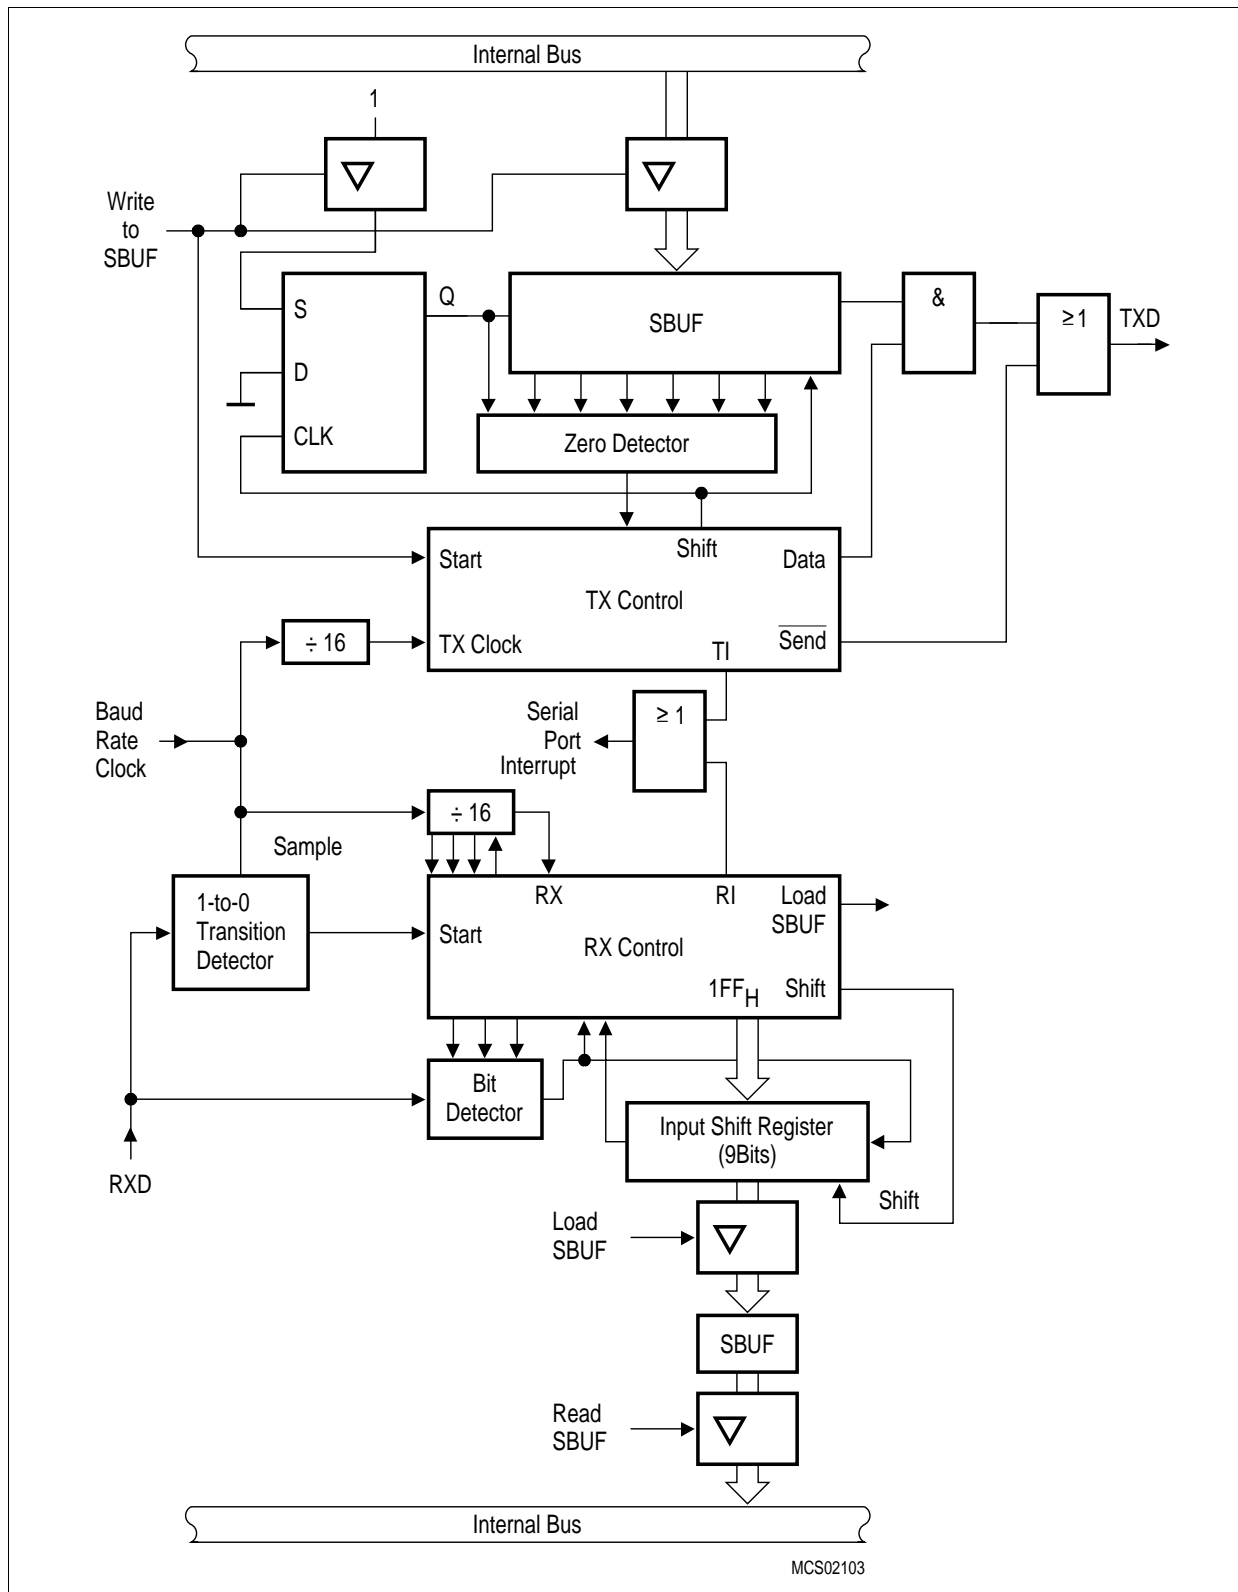
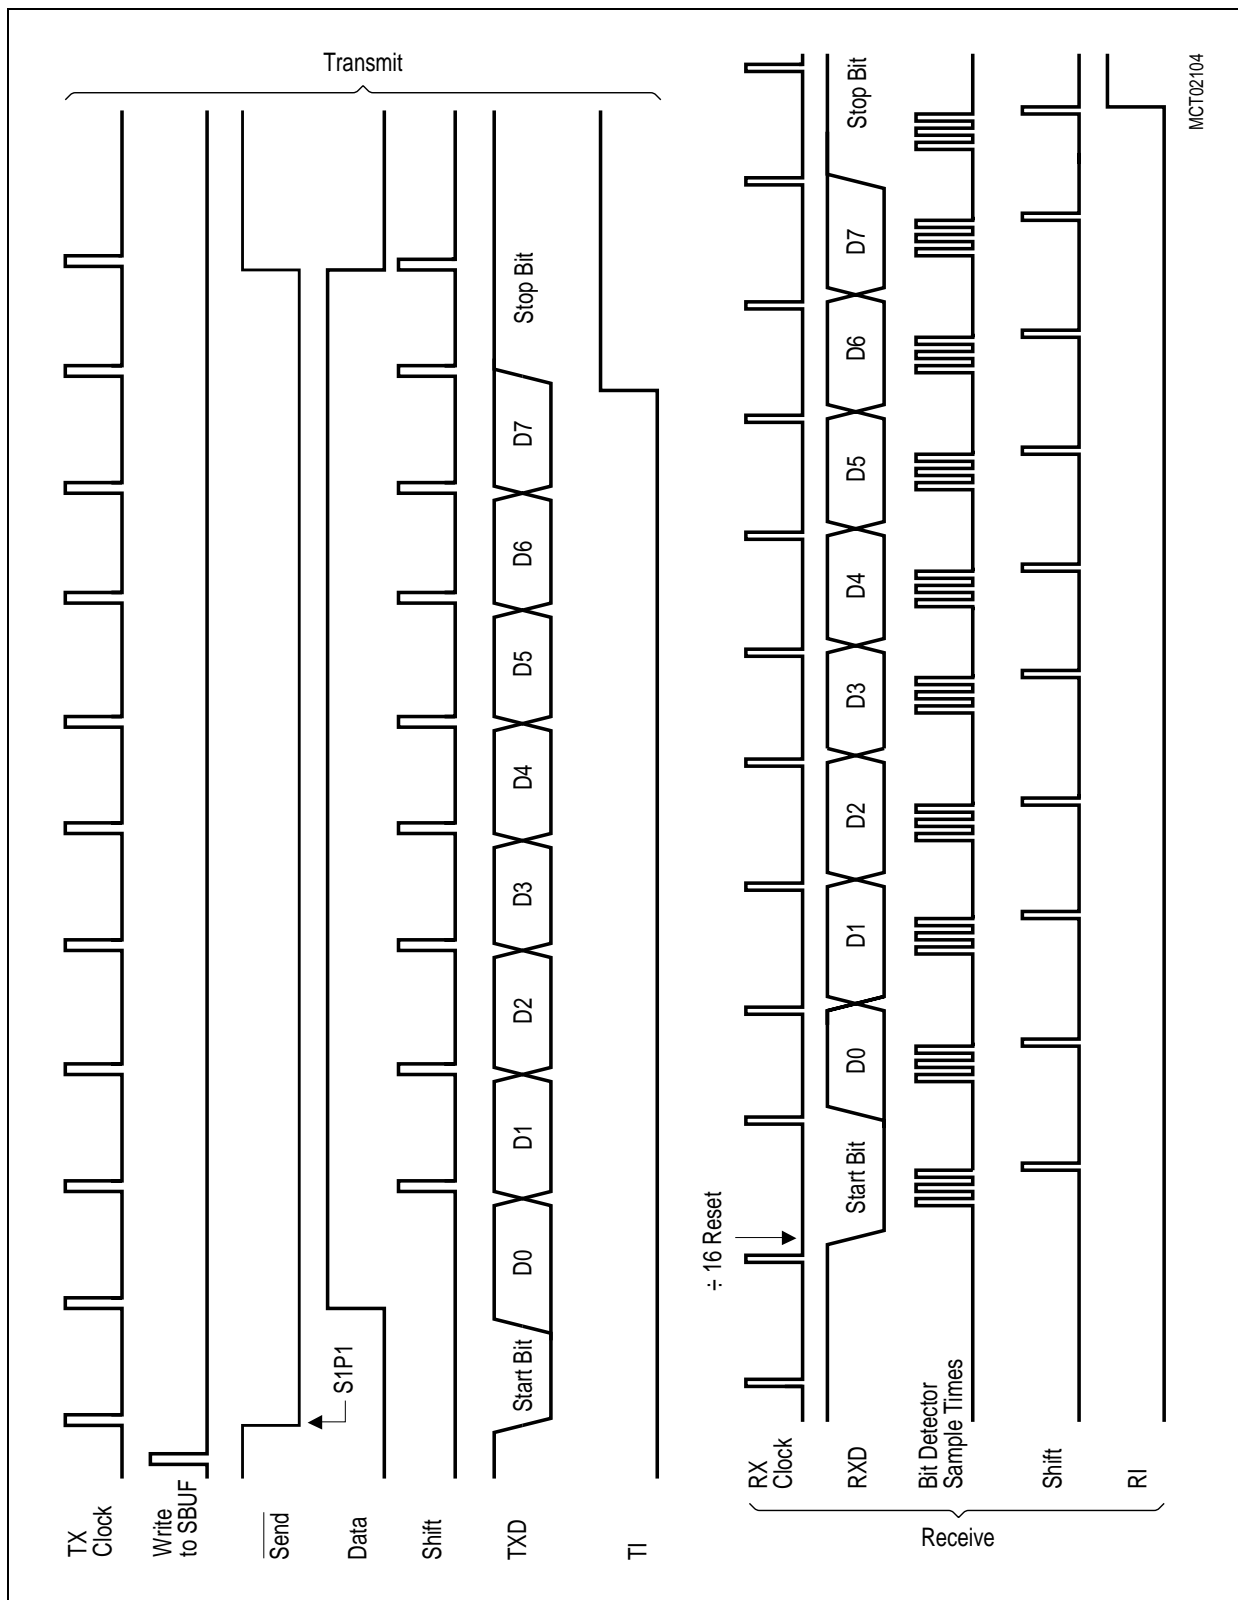

Figure 4-37 Serial Interface, Mode 1, Functional Diagram
Figure 4-38 Serial Interface, Mode 1, Timing Diagram
**Figure 4-37** shows a simplified functional diagram of the serial port in mode 1. The associated timings for transmit/receive are illustrated in **Figure 4-38**.